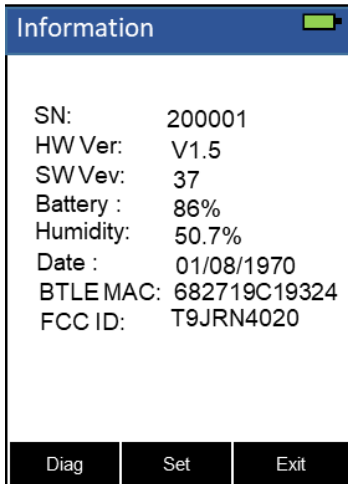

Figure 25
The **Information** screen is launched when System (OK) is pressed while not in an ongoing measurement procedure. This screen contains the device serial number, software version, and hardware version (Figure 25). The battery life as a percentage and the MAC addresses for main module also shown in 26 *Figure .*
Press **Diag** (<) to launch the diagnosis screen where raw measurement data are displayed (Figure 25 *Figure*). The information has no use for normal operation, but instead is used for device troubleshooting. Provide an image of both the Information screen and the diagnosis screen when you contact [service@pyxis-lab.com](mailto:service@pyxis-lab.com) for troubleshooting your device or call +1 (866) 203-8397.
1. Power on the SP-208 by pressing (OK).
2. Press **System** (OK) as needed to launch the Information screen as show in figure25.
3. Press **Diag** (←) to launch the diagnosis screen. The display updates as shown in Figure 25 Figure.
5. Press **OK** (OK) to start the factory reset.